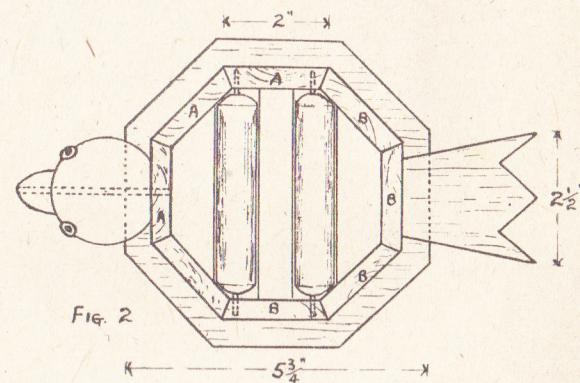

FIG. 2
Start by cutting the eight sides for the case 6ins. long, 2ins. wide and  $\frac{3}{8}$ in. thick. The best way to get the correct angles for the mitres is to draw out the plan to full size, as shown in Fig. 2. Then you can proceed to mitre the edges. Go slowly, planing off a little at a time until a perfect fit is obtained, laying the work on the plan from time to time to get the mitre lined up correctly.
The case can now be glued together in two pieces—all the sides marked (A) in Fig. 2 making one half, and all the pieces marked (B) for the other half. These two halves are fastened together after the rollers have been fitted, which is the next job.